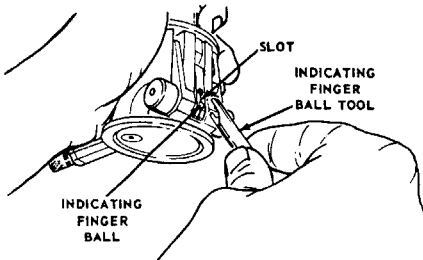

FIGURE 8
1. See Figure 8. Insert Indicating Finger Ball Tool into Slot and pry upward to remove Ball. Ball will stay in Tool.